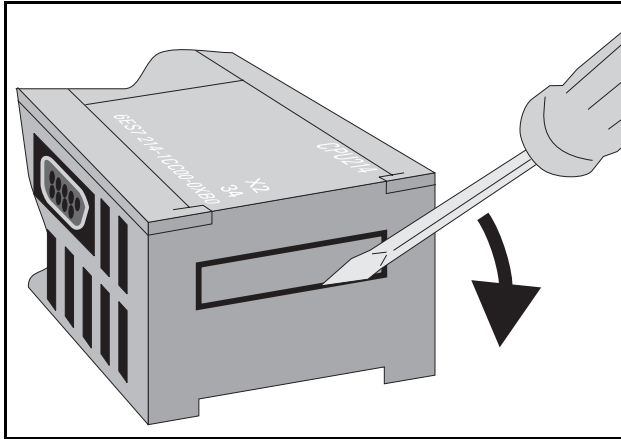

Figure 3.7 Removing the Bus Connector Panel
1. Insert a flat-bladed screwdriver into the space between the bus connector panel and the S7-I/O base module or expansion module case. See **Figure 3.7** for proper placement of the screwdriver. The cover is not replaceable.